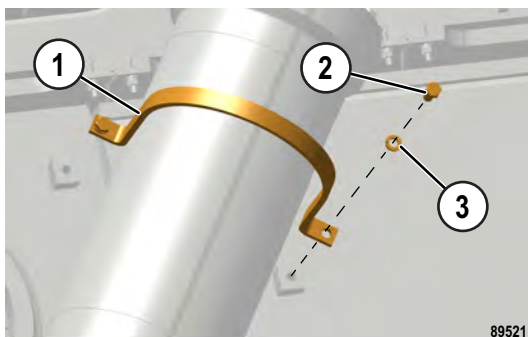

FIGURE 50-42. CLAMP INSTALLATION
7. Install clamp (1, Figure 50-42) to secure the hoist cylinder to the frame. Install cap screws (2) and lockwashers (3) into the mounts on the frame.